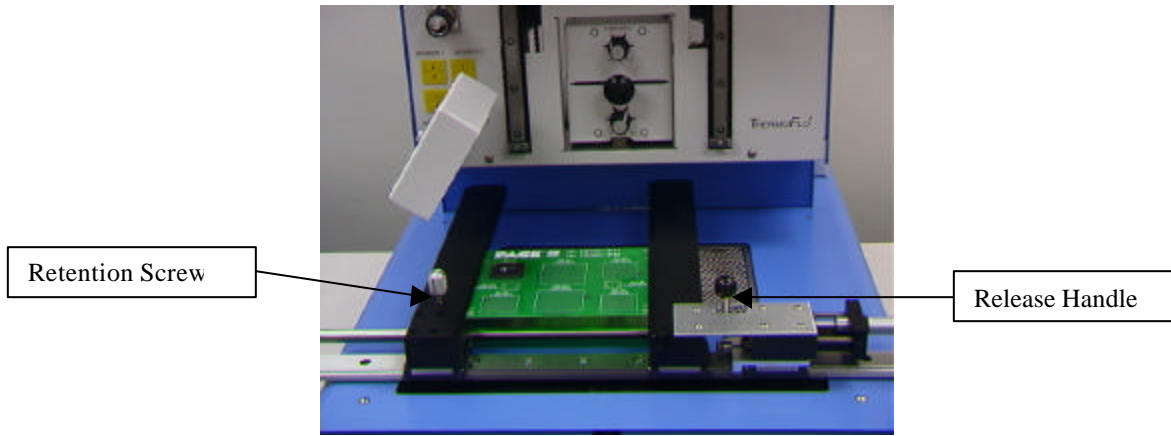

Figure 15
- v. Place the PCB between the arms on the TF 1500 and tighten the retention screw. (Figure 15)